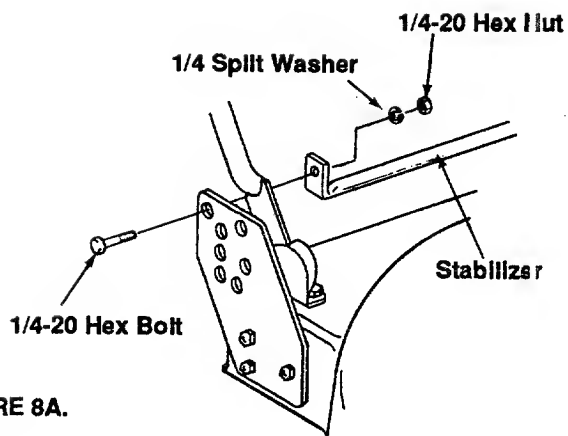

FIGURE 8A.
1. Attach stabilizer to rear brackets with 1/4-20 x 5 hex bolts, 1/4" split washers and 1/4-20 hex nuts. See figure 8A. Assemble both sides loosely then tighten securely.